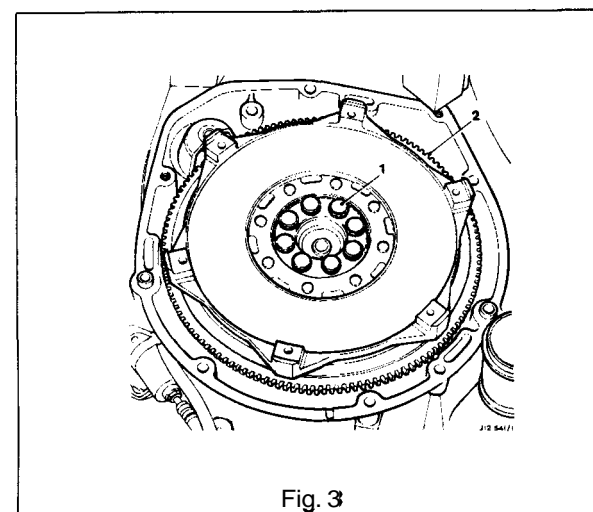

Fig. 3
- Remove the eight securing bolts (1 Fig. 3) and remove the flywheel (2 Fig. 3).